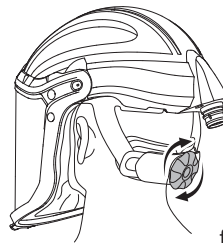

fig.1b
Step 2: Adjust the back headtop ratchet knob until the faceshield is affixed on the head properly (See fig.1b).